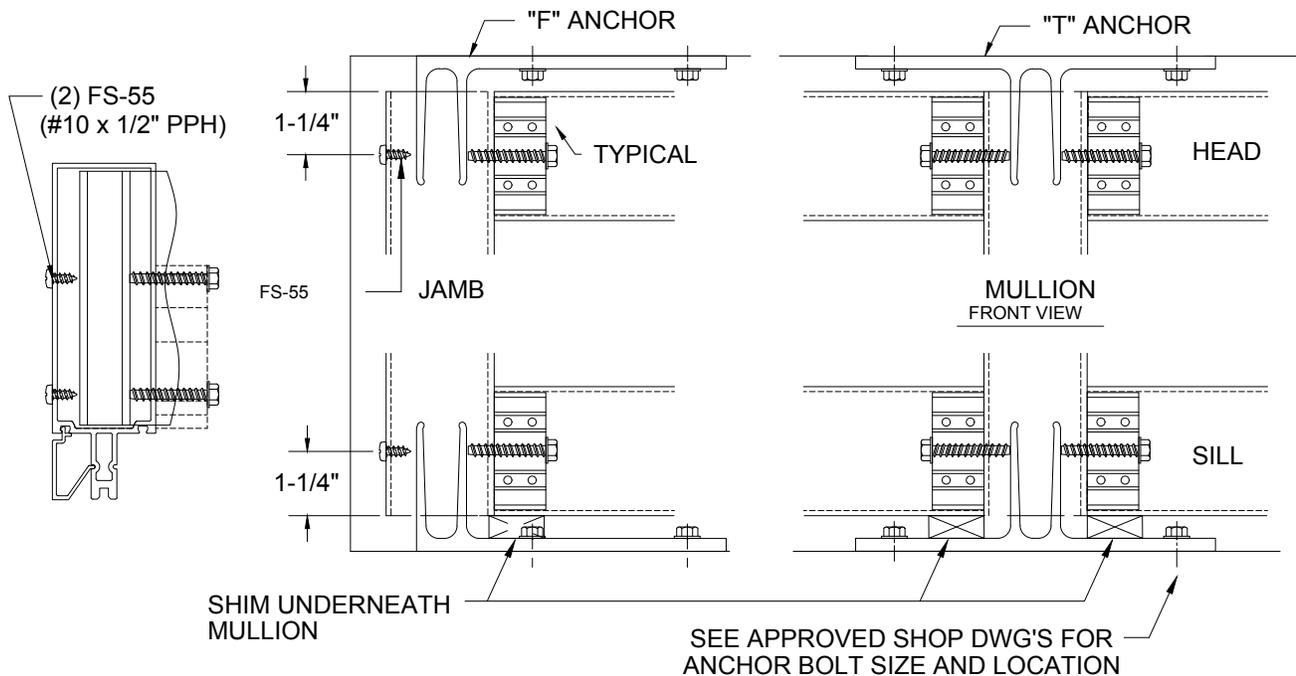

Figure 8
- 2.1.15 Slide tee anchors into top of upper-most mullions. The tee anchors are designed to clear the shear block fasteners. **See FIGURE 8, page 11.** Attach tee anchor to building condition.